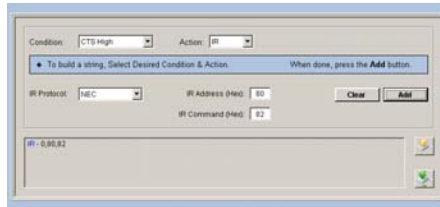

Figure 8 – IR Codes
- Select the desired **Condition** and change **Action** to **IR**. When done, the user clicks the **Add** button to append the command to the existing user string as shown in Figure 8.